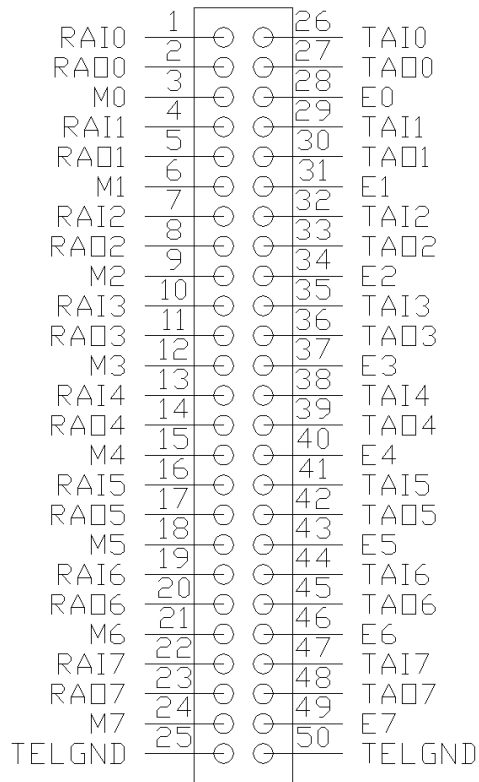

Figure 3: J1 RJ21 Pin Assignments
- J1** Analog telephony connections. This connector is a standard RJ21 type 50 pin connector. Each port occupies three pairs in order. See Figure 3.